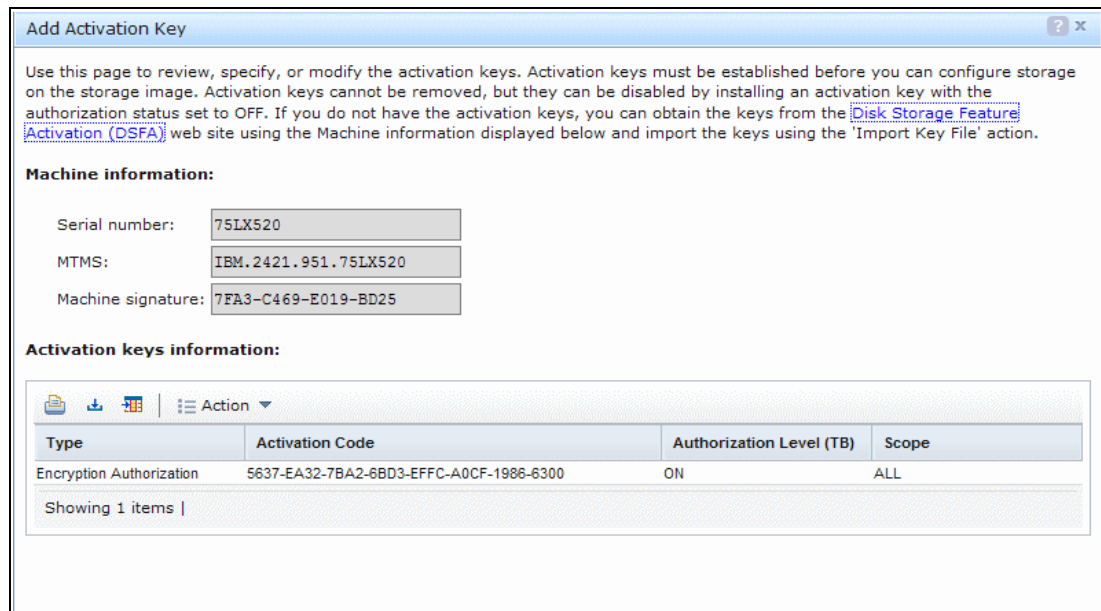

Figure 10-3 DS8000 Machine Signature & Serial Number
- This window shows the **Serial Number** and the **Machine Signature** of your DS8000 Storage Image (Figure 10-3).